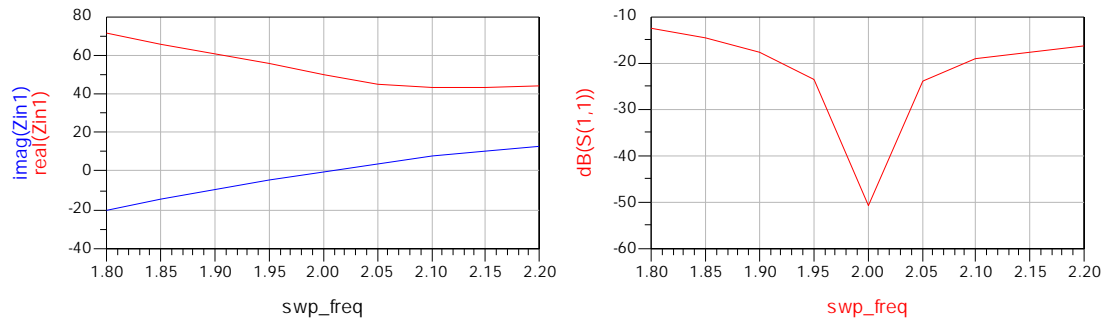

Figure 5. Typical plots for large-signal  $S_{11}$  and input impedance, using the schematic shown in Figure 4. The source power for these results was 5 dBm
- b) Typical results at a source power level of 5 dBm are shown in Figure 5.